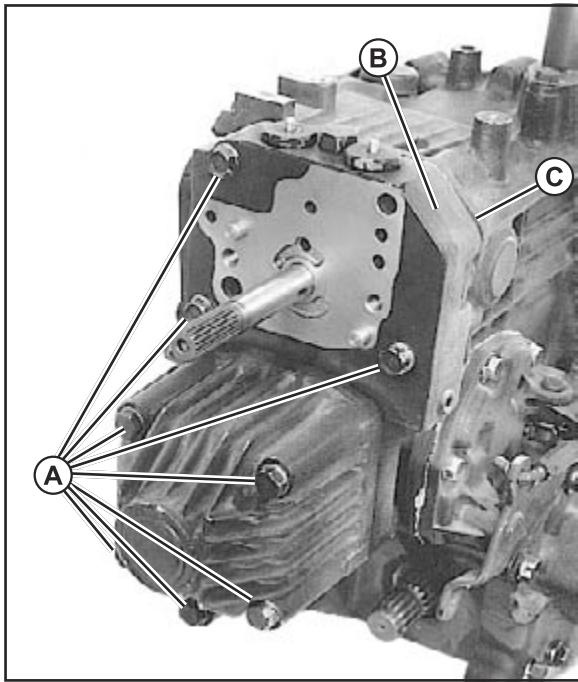

Fig. 59, Hydrostatic, 2WD (4WD similar) Motor Install
1. Install gasket (C). (Fig. 59)
2. Install center valve block (B) and motor assembly to transaxle housing and secure with cap screws (A). (Fig. 59)
- Tighten cap screws (A) to 39 N·m (29 lb·ft).